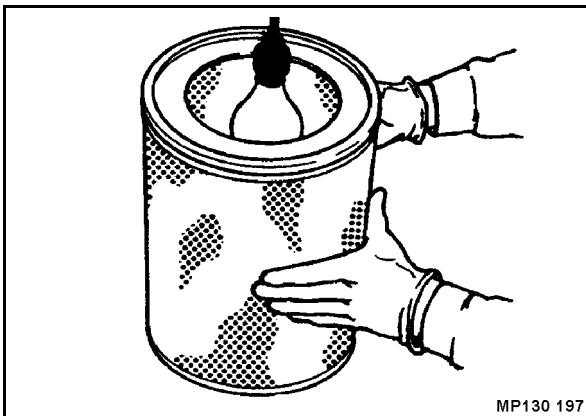

Fig. 26
- Examine the filter cartridge with a torch for cracks and holes in the paper bellows (Fig. 26).